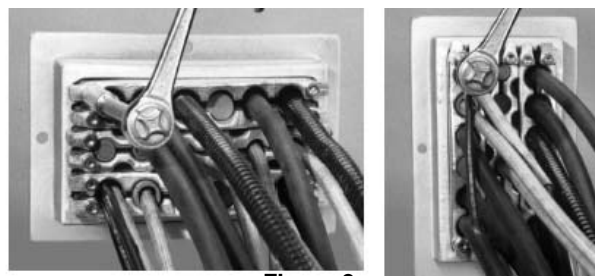

**Figure 8.**
8. To ensure watertightness, it is recommended that General Electric RTV7403 or RTV106 High Temperature Sealant (or equivalent) be used to coat elliptical or corrugated armored cables immediately prior to tightening compression hardware of TWB Sealing Block Assemblies (see Figure 8).